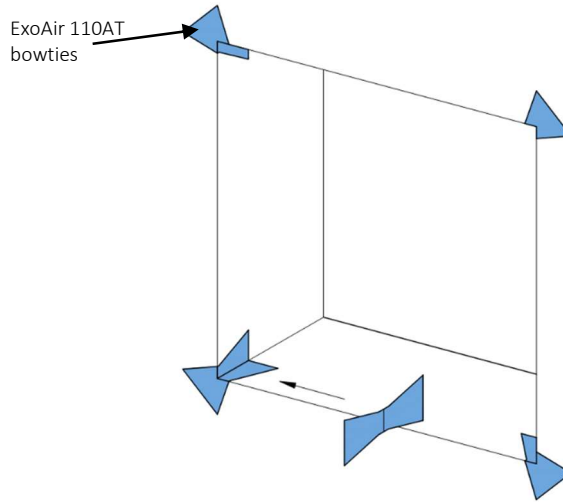

Fig. 13
- a. Cut ExoAir 110AT into bowties/hourglasses or other acceptable shapes and install in all corners. – **Figure 13.**